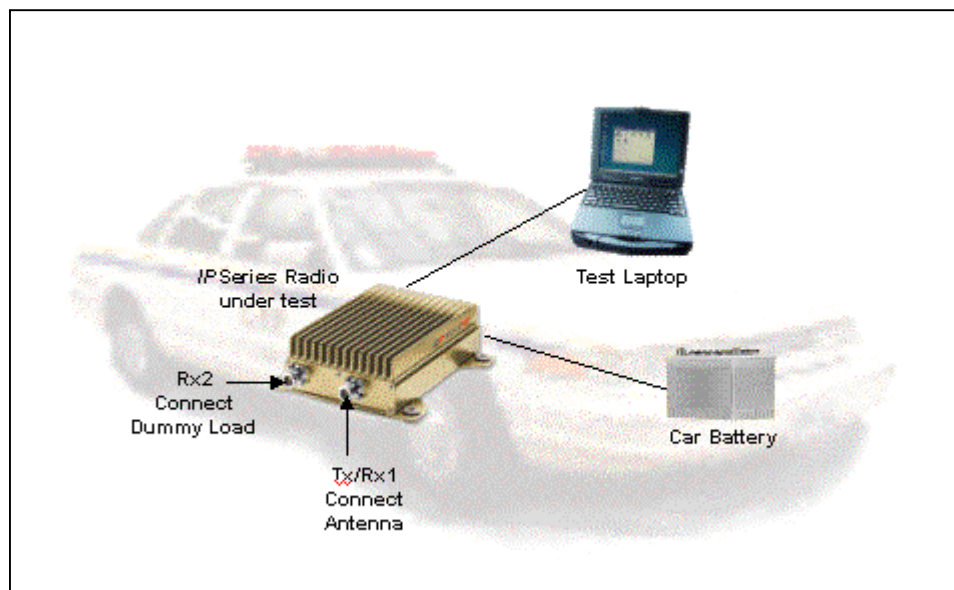

Figure 21: Mobile Radio Connection for Testing
- Step 2** Connect the mobile radio as shown below in Figure 21.